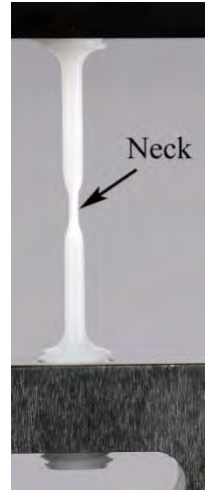

Figure 3: Necking
**Strain Softening** – Following yielding some materials will appear to soften (load decreases) as a neck forms (see Fig. 3) and the structure begins the transformation from one of randomly oriented chains and crystallites into a more aligned structure.